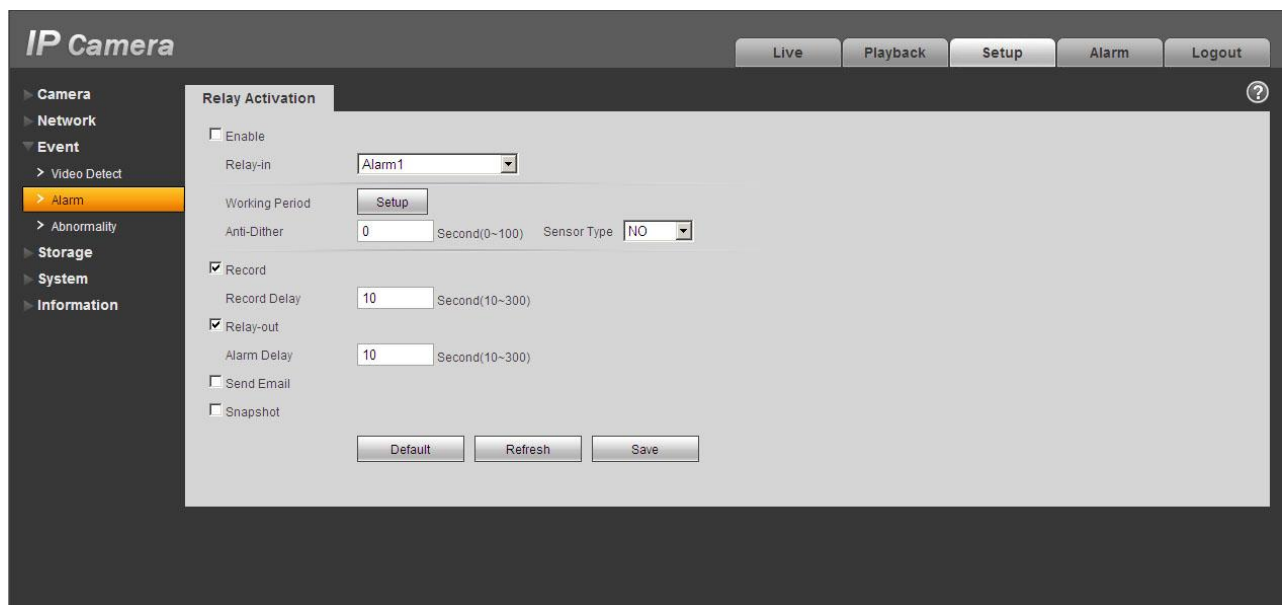

Figure 2-12 Alarm
The alarm interface is shown as in Figure 2-12. Please follow the steps listed below for local alarm input and output connection.
- 3) Open the Web, go to the Figure 2-12. Please set the alarm input 01 port for the first channel of the I/O cable (No.4 pin). Then you can select the corresponding type (NO/NC.)